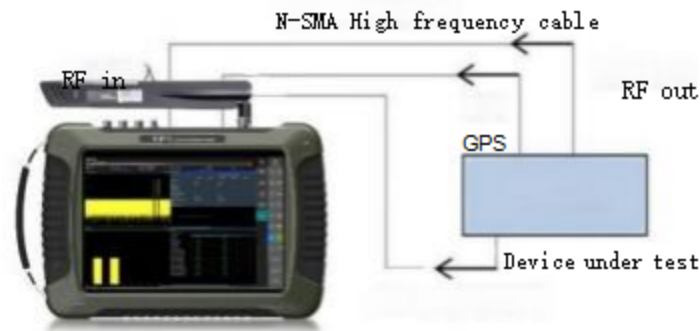

Figure 5.19 Schematic diagram of the tested equipment and RMT series spectrometer
Step 1. Connect the signal output port of the device under test to the RF input port of the RMT series spectrometer, as shown in Figure 5.19. It is recommended to connect the